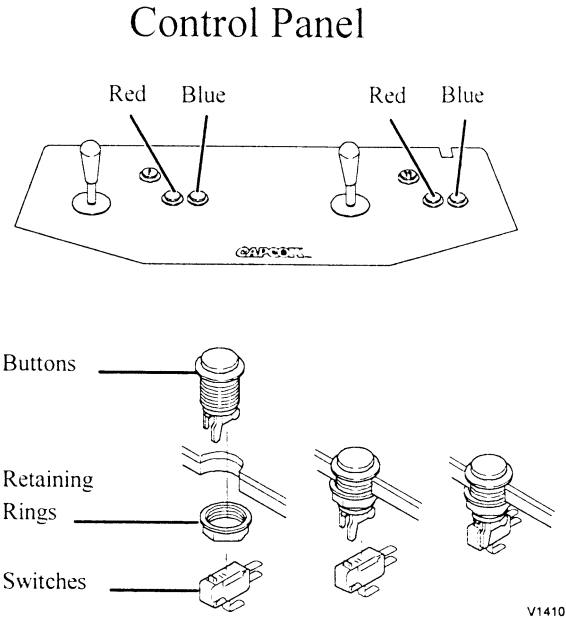

FIGURE 5 : Control Panel Buttons (“B” Kit)
11. Re-install all-buttons and retaining ring to the control panel!. Make sure that the button colors are orientated as shown in Figure 5.